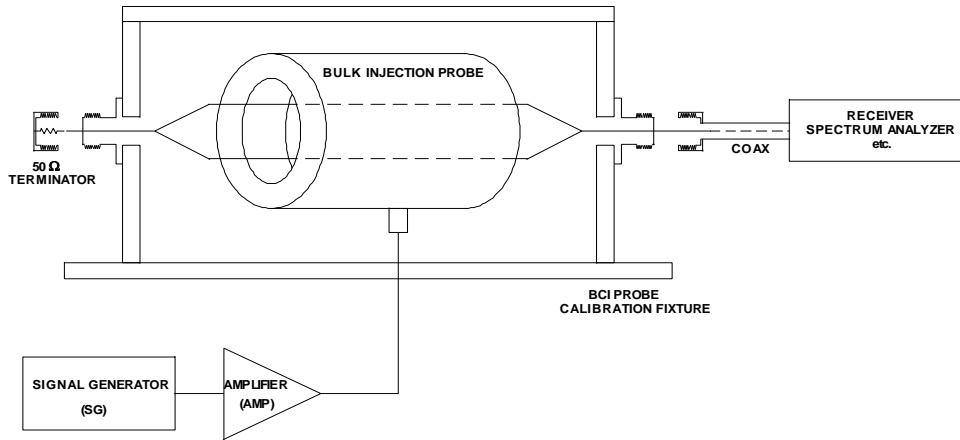

Figure 2 - Test setup to set desired current level in a known configuration
Figure 2 shows a commonly employed setup that can be used to pre-set the current drive level into a known loop impedance. Use of the Fischer calibration fixture allows establishing/understanding basic SG/Amp/BCI Probe coupling behavior in a clean setup that excludes resonance and standing waves issues that may be present on a real cable bundle. This Fischer fixture is typically the same fixture used to calibrate the BCI Probe for Insertion Loss for many international Standards. Additional information about BCI Probes, CM Probes, and associated fixtures can be found on the Fischer Website at Fischercc.com.
In Figure 2, this loop impedance is 100 ohm; other loop impedances can be (and have been) used. For example, the 50 ohm load could be replaced by a short to create a 50 ohm loop impedance.
An example of how Figure 2 would be applied is found in RTCA DO-160C, Section 20.5, Figure 20.5. This Figure plots the Conducted Susceptibility (CS) current to be generated in the fixture shown in Figure 2 versus frequency from 10 kHz to 400 MHz. This plot shows the relationship between these currents and the corresponding radiated field level. The current levels in RTCA DO-160C, Section 20.5, Figure 20.5 can be achieved with a standard SG and a 25 Watt amplifier. While this Figure stops at 400MHz, it can serve as a useful starting point to investigate upset at higher frequencies.
Table 2 presents in tabular form the relationship given in DO-160C Figure 20.5 between the Electric field strength and the coupled current. Also shown in Table 2 is the Amplifier wattage required to induce this current into the 100 ohm load of the setup shown in Figure 2. It can be seen that commonly used EMC Radiated Susceptibility field strengths up to 30 V/m can be achieved with less than 1 watt of amplifier output.
Table 2 - Relationship between Electric field strength and coupled current to a cable bundle as per DO-160C Figure 20.5 (500 kHz to 400 MHz), and required amplifier output power to achieve this current in the test setup shown in Figure 2 at common EMC field levels
How to Apply the BCI Probe Using Figure 2
- The current level in the fixture shown in Figure 2, is established as follows:
- The desired/specified loop impedance is determined (for example, Figure 2 shows a 100 ohm loop impedance) and set
- The SG drive level is set to the level established using the test setup of Figure 2 as per steps above